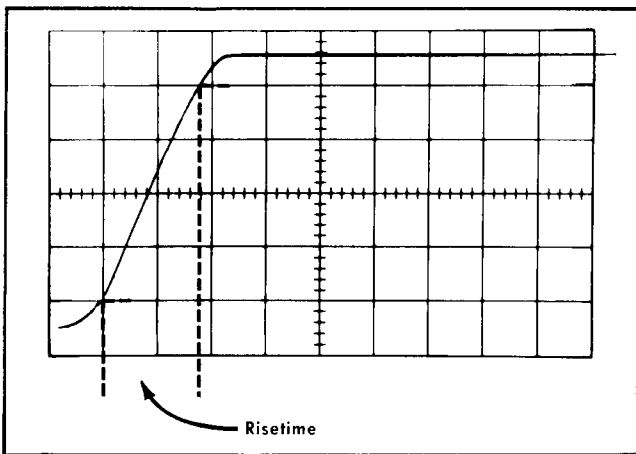

Fig. 5-18. Typical crt display when checking Calibrator risetime. Indicated risetime is 0.36 microsecond.
s. Check—Risetime between 10% and 90% points on waveform less than 5 divisions (1 microsecond); see Fig. 5-18.